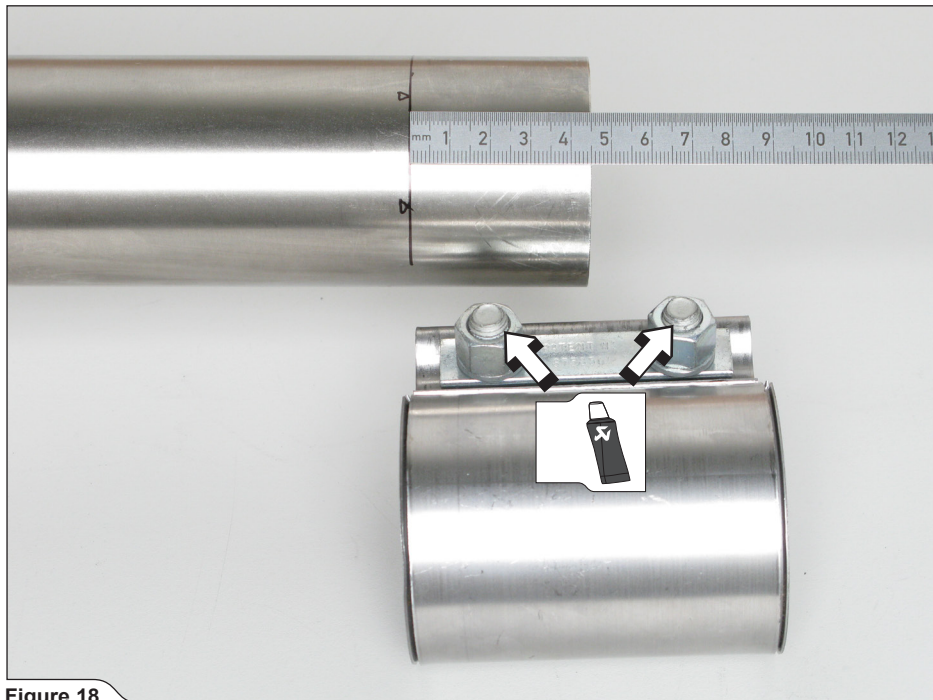

Figure 18
7. **For Evolution:** mark the inlet pipe of the Akrapovič muffler (45mm) as shown, so you can correctly adjust the fitting clamp later (**Figure 18**). Slide the fitting clamp over the pipe.